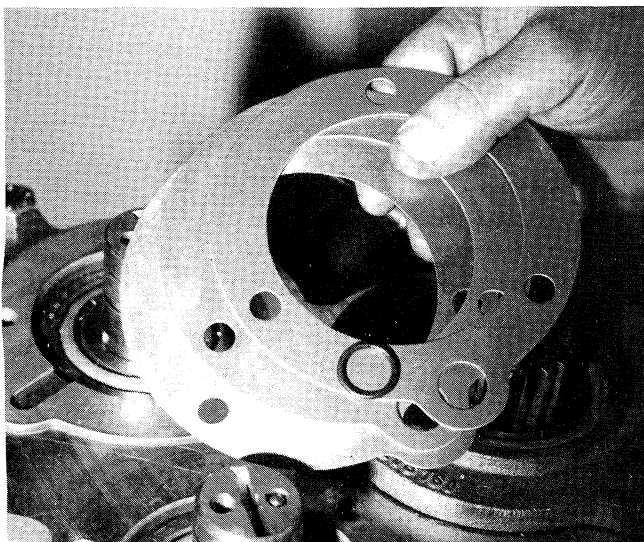

Figure 9-3. Pump mount shims and O-ring seal.
5. Install the shim pack (see Figure 9-3) under the pump mount (Figure 12-1, 39) and secure with capscrews (38). Torque the capscrews 27 ± 2 lbs. ft.